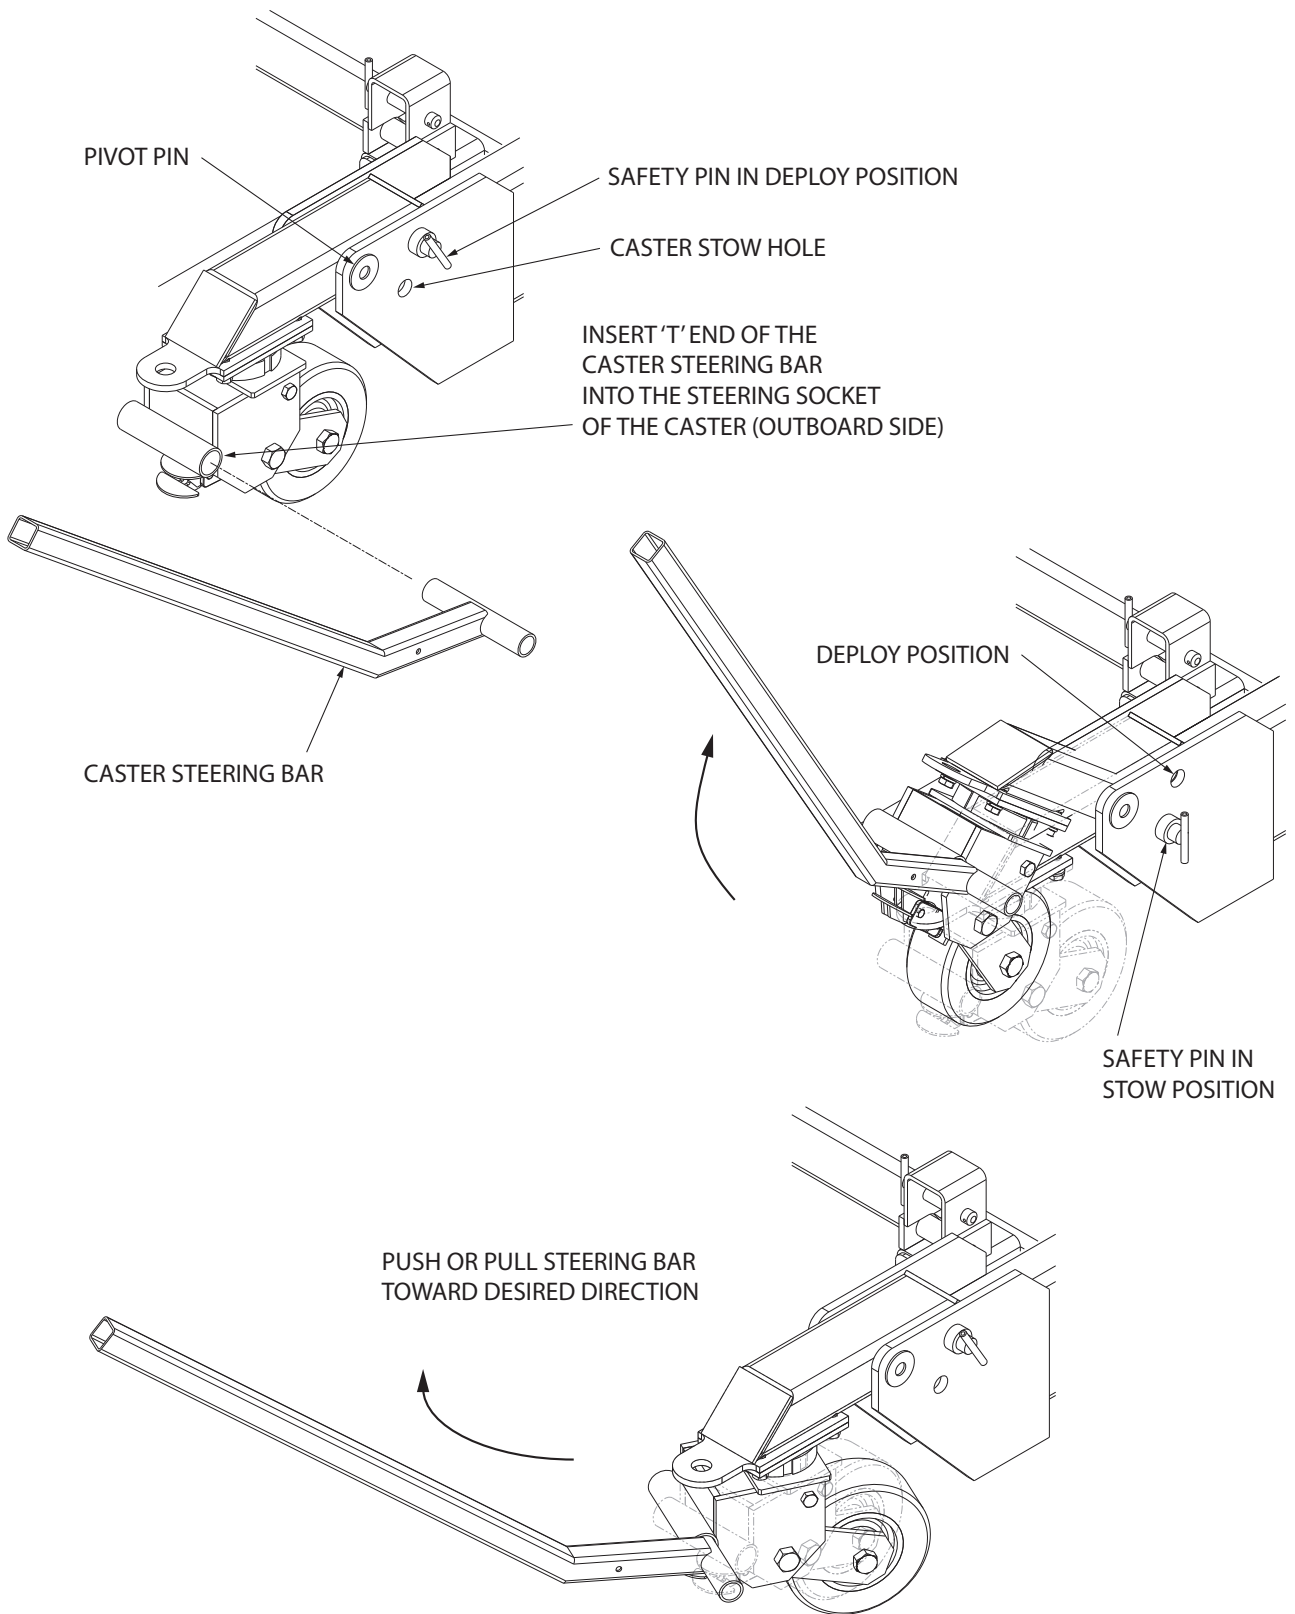

Figure 5.4-1
5.4 Caster Operations (Figure 5.4-1)